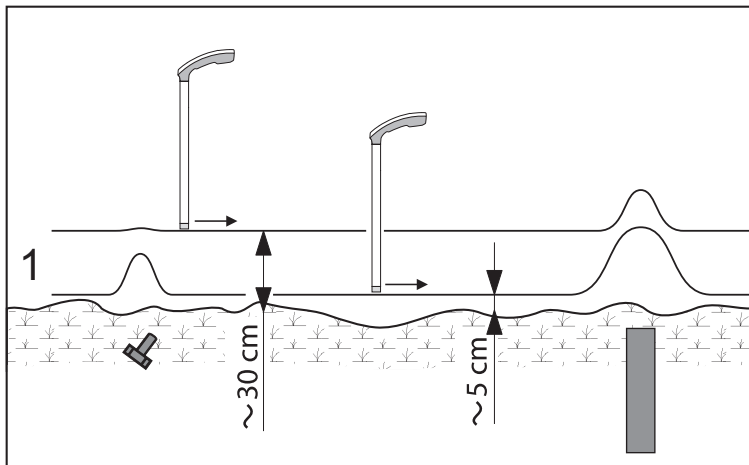

Fig. 9: Locating small and large objects with the same sensitivity. The distance of the magnetometer varied from the surface (cross section).
- If the distance between the magnetometer and surface² increase without the sensitivity changing, it is more difficult and maybe even impossible to locate the object (Fig. 9).